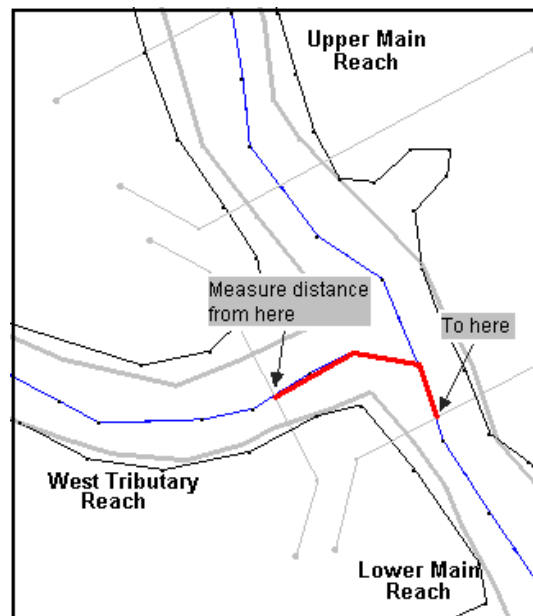

Figure 7 Measuring Junction Lengths
7. As shown in the example in Figure 7 below, click along the lines to trace the distance along the centerline arc between the most downstream cross section arc on the West Tributary reach and the most upstream cross section arc on the Lower Main reach. Double-click to end the measurement. Note the length displayed in the lower left hand corner of WMS for future use.